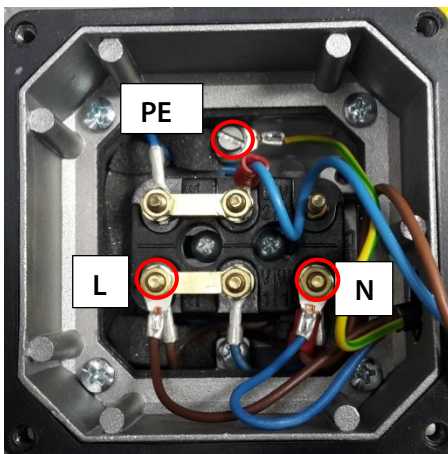

Figure 9 Electrical connection MP-F.. 230 V
2. **230 V:** Feed connection cable ($\varnothing \geq 0.75 \text{ mm}^2 \text{ Cu}$) through cable gland (clamping range 6.5 – 10 mm) and connect it with ring cable lugs according to Figure 9 or the connection diagram in the junction box lid. Secure cable with the clamping bracket.